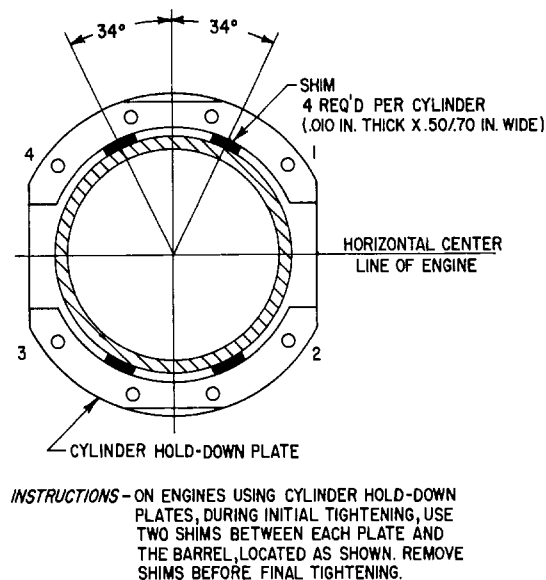

Figure 6-31. Location of Shims Between Cylinder Barrel and Hold-Down Plates
a. Assemble hold down plates (where applicable) and cylinder base hold down nuts. Install shims between hold down plates and cylinder barrel as directed in figure 6-31.